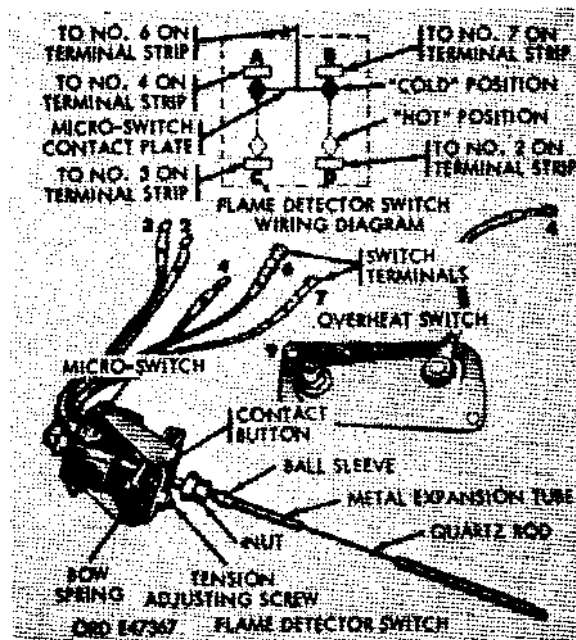

Figure 578. Flame detector switch and overheat switch
- (6) Flame detector switch (fig. 578).
- (7) Overheat switch (fig. 578). The overheat switch will automatically close the shutoff solenoid of the fuel control valve